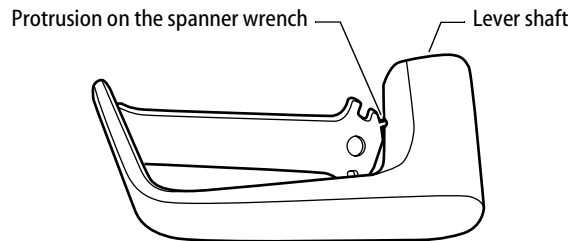

Figure 2b Removing the inside lever from cylindrical locks
- 1 Insert the protrusion on the spanner wrench into the hole on the shaft of the lever, as shown in Figure 2b.